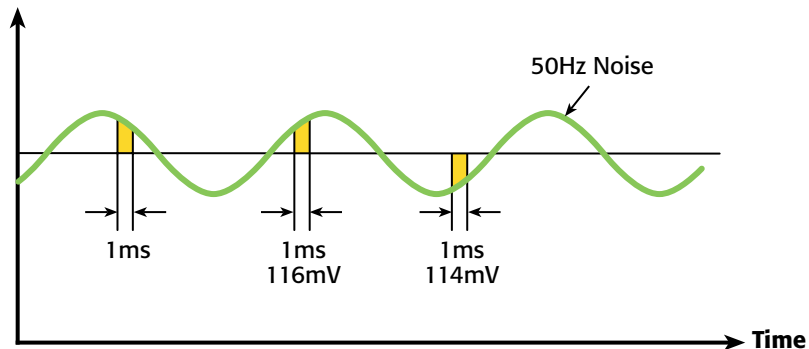

Figure 5.
- External interference.** External interference introduces both AC and DC errors into signal measurements. The most common form of external noise “pick-up” is 50Hz or 60Hz line pick-up, depending on where in the world the measurements are being made. Picking up millivolts of noise is not uncommon, especially when measurements are made near fluorescent lights. The signal components of noise superimposed on a DC signal being measured may result in highly inaccurate and fluctuating measurements. As shown in *Figure 5*, the measured value will very much depend on where the measurement is carried out in relation to the sine wave. Many modern instruments allow users to set the integration period in relation to the number of power line cycles. In other words, a setting of 1 NPLC will result in the measurement being integrated for 20 milliseconds (if 50Hz) and 16.67milliseconds (if 60Hz), which will eliminate any mains generated noise. The performance improvements this feature make possible are often dramatic.